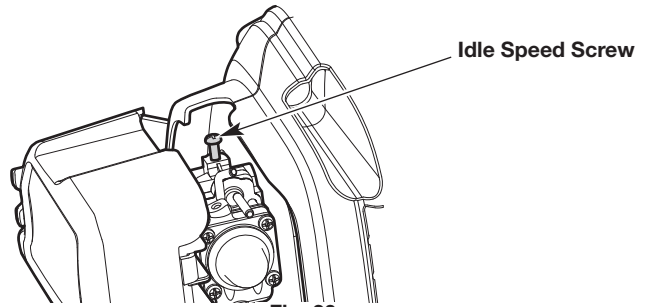

Fig. 20
- If the engine stops, increase the idle speed. Use a small Phillips screwdriver to turn the idle speed screw clockwise, 1/8 of a turn at a time, until the engine idles smoothly (Fig. 20).
- If the blade spins when the engine idles, reduce the idle speed. Turn the idle speed screw counterclockwise, 1/8 of a turn at a time, until the blade stops moving (Fig. 20).